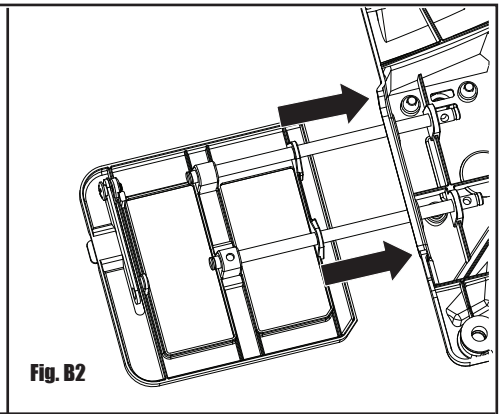

Fig. B2
- 2) Invert the mitre saw for better visibility. Align and insert the 2 rails of the table extension into the 2 holes at the edge of the base. (See Fig. B2)